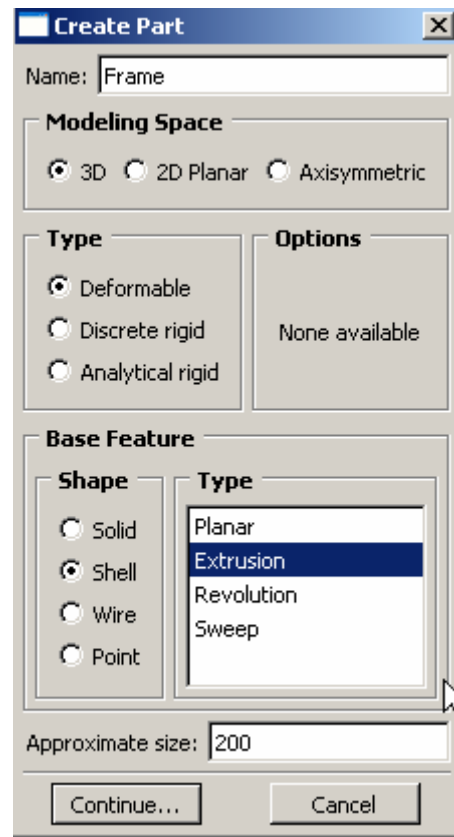

Figure W-4 Create Part area
3. In the **Create Part** dialog box, name the part **Frame**, and specify an approximate size of **200**. Accept the default settings of a three-dimensional, deformable body. Change the base feature to shell, extruded base feature (Figure w-4). Click **Continue**.